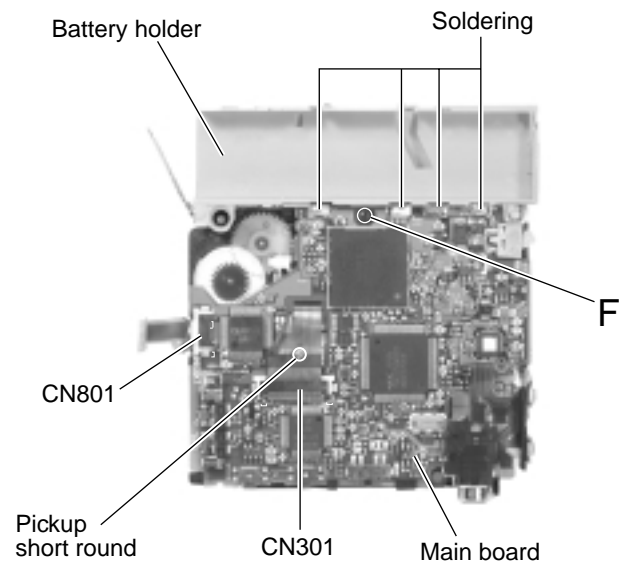

Fig.7
**■Removing the main P.W. board and the battery holder (See Fig.7 and 8)**